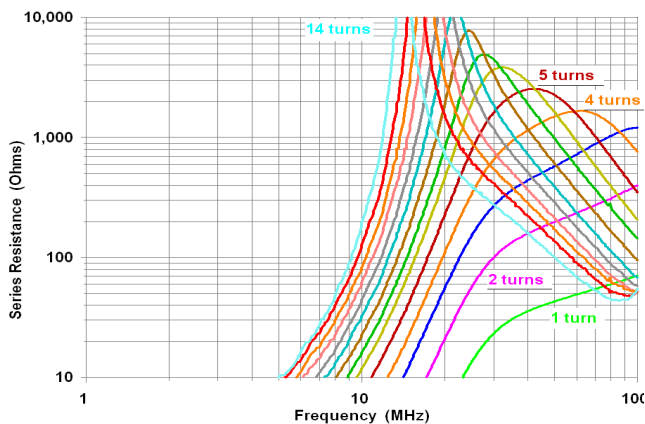

Fig 33 – R_s for chokes on 2.4" o.d. Fair-Rite #61
- ♦ **Inductive Ferrite Choke Balun** The line is wound around a toroidal ferrite core that has low loss at the frequency where the balun is used, so all (or nearly all) of the impedance is inductive. The line may be coax or it may be balanced. Reiser's toroidal baluns are wound on #61 material, which has low losses at HF (Fig 12, Fig 33).